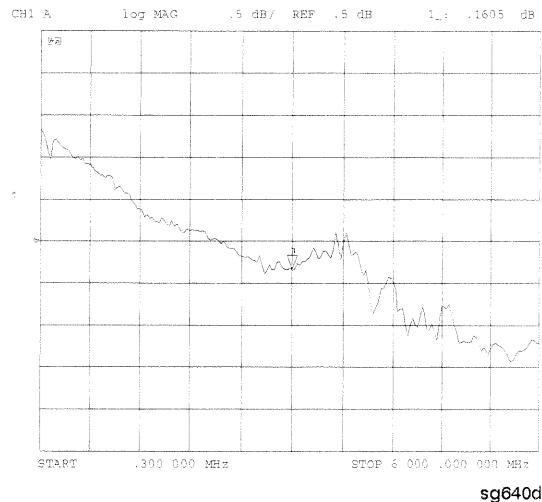

Figure 4-9. Typical Measurement Trace
3. Observe the measurement trace displayed by the A input. The trace should have about the same flatness as the trace in Figure 4-9.
5. Observe the measurement trace displayed by the B input. The trace should have about the same flatness as the trace in Figure 4-9.